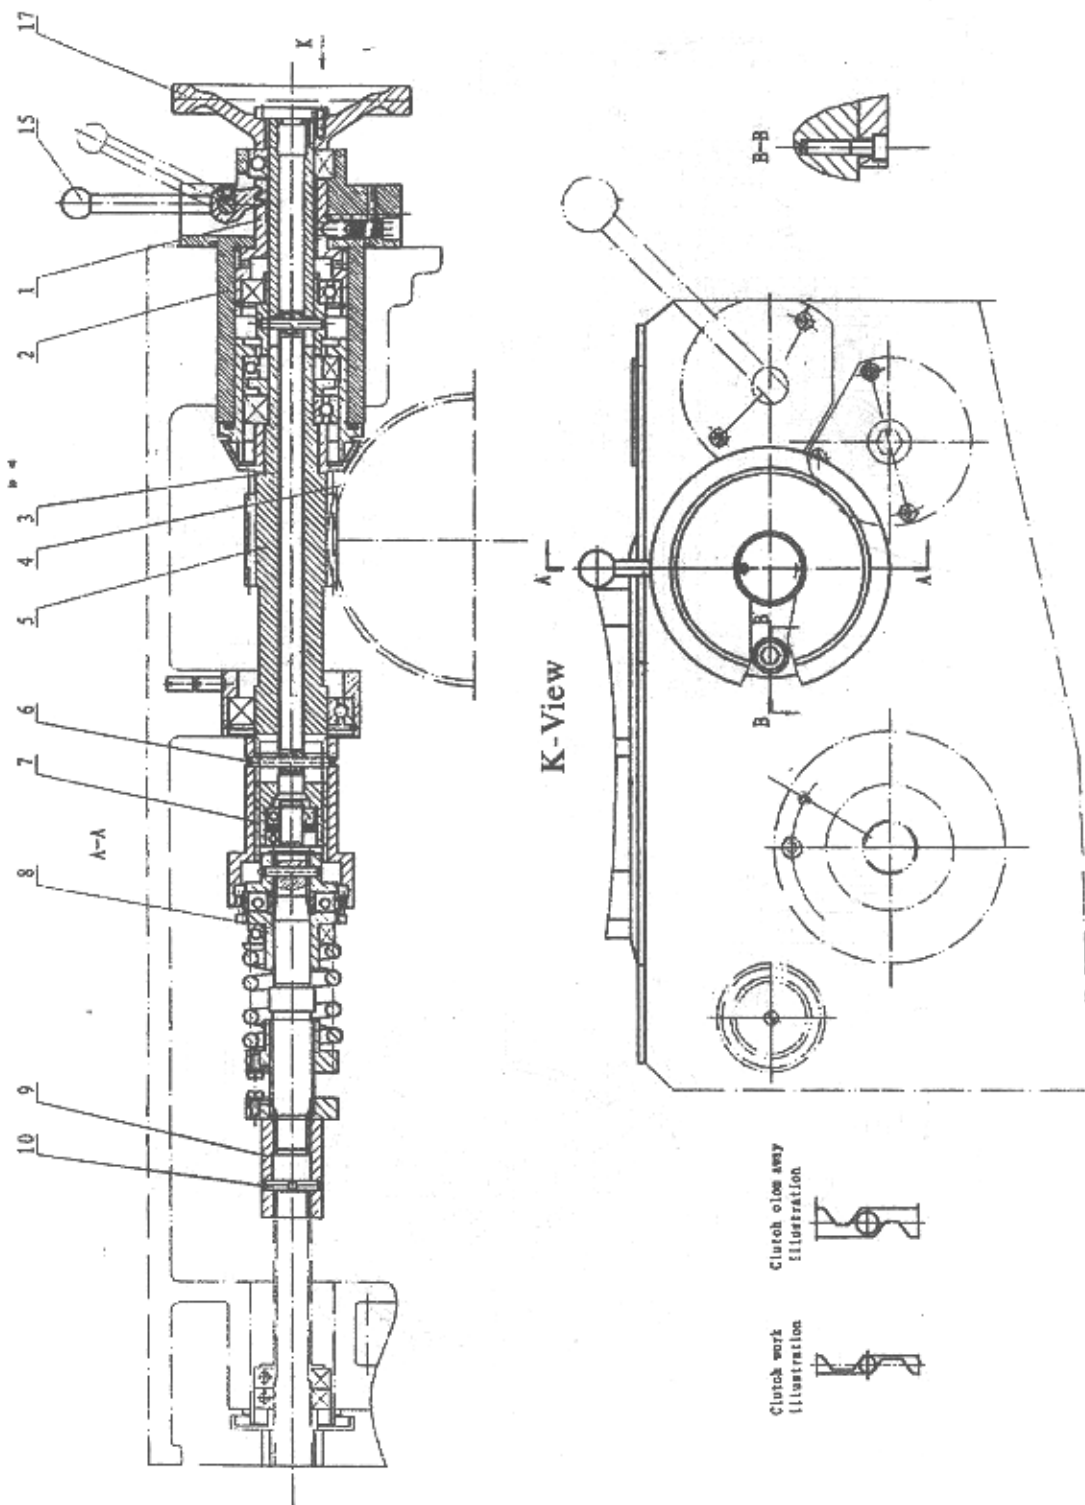

Fig. 10-3 Worm
(1) Worm shaft (fig.10-3)
fig.10-3 shows manual feed micro-feed position, handle 15 was at steel ball insurance clutch on upper limitation place gear 8. Spindle feed speed change mechanism drive unload race .I f you want to connect mechanical feed , press handle 15 to the limitation place , push parts such as gear cover 1 and haulm 3, upward moving inner gear cover 7 8mm, and joggle with outer gear , circulation movement via spline 9 and spline hole on inner gear cover 7 transmitted to worm shaft 5, make worm wheel 4 reverse , plane shaft drive spindle feed at last. Hand wheel 17 circumgyrate
(5) adjustment of resistance of feeding- load (fig.10-3)